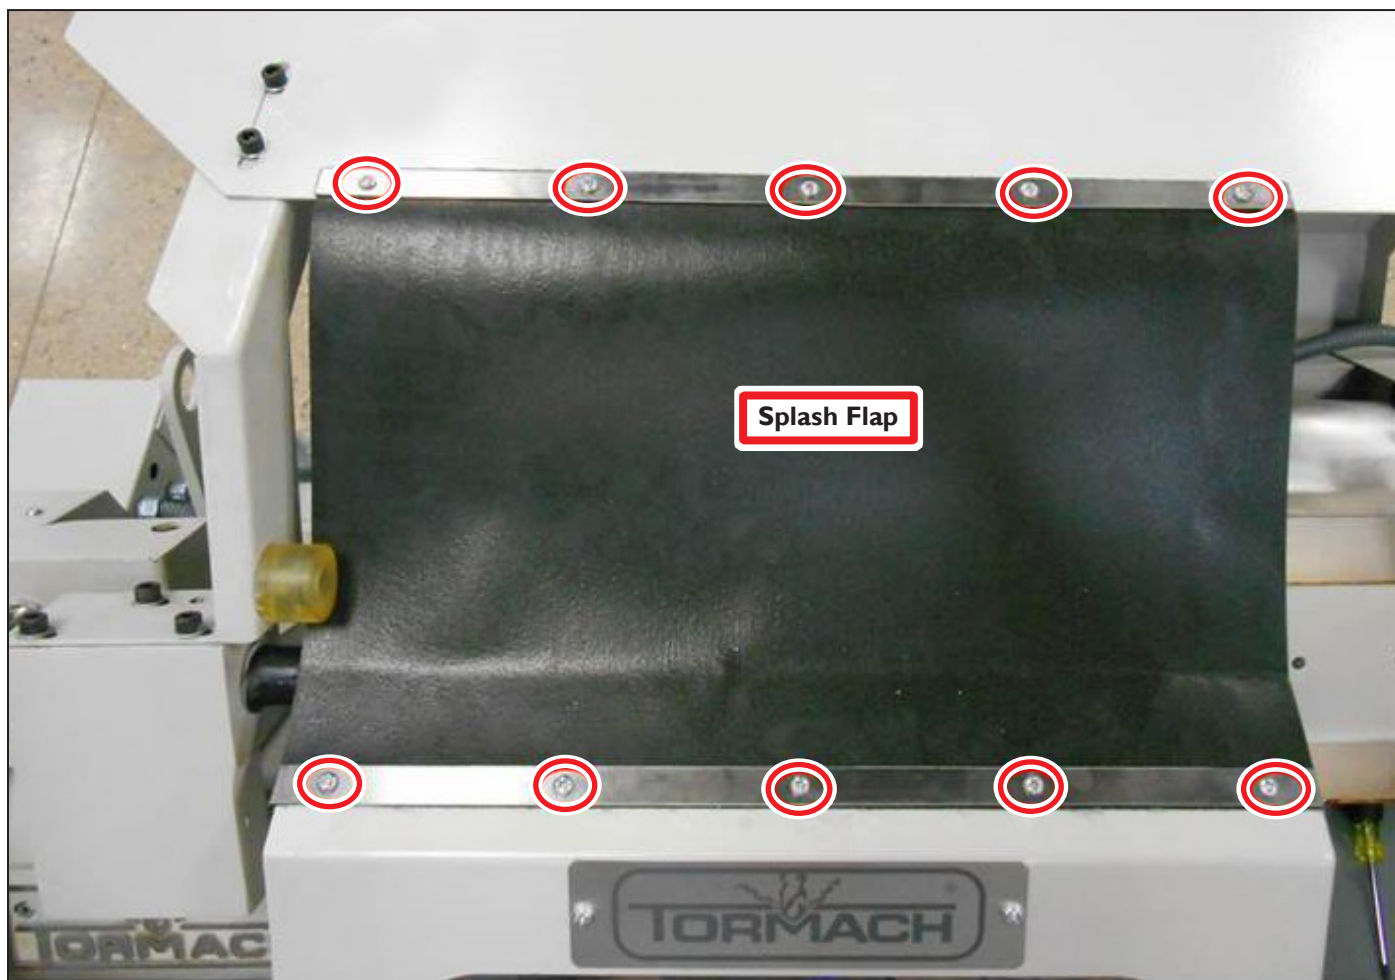

Figure 12
1. Install the Splash Flap to prevent spray back of coolant above the Chuck Guard with 10 Phillips Head Screws, lock washers, and nuts as shown in **Figure 12**.